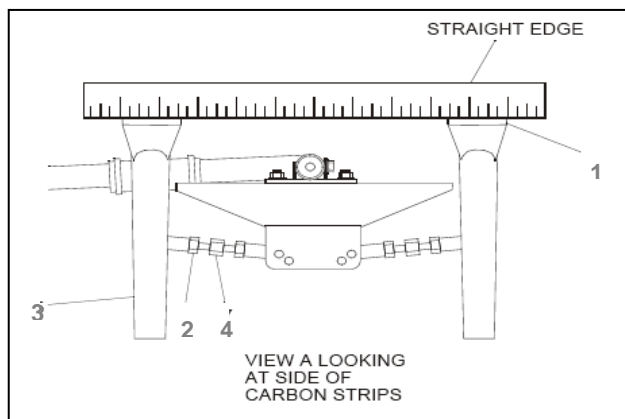

Figure 11: Straight edge tool and components: Carbon strips (1), Hex nuts (2), Pan head (3), and Turnbuckles (4)
- **Carbon strips** (Figure 11) – Visually inspect, look for chips as this will wear down quickly over time. Carbon strips must be replaced if cracks are detected. Make sure that there is the proper thickness. In some cases there is a wear line. In others, manually measure the thickness and be sure to refer to manufacturer's manual for specifications which is generally 1/8 to 1/4 inch. Make sure the carbon strip is perpendicular with catenary using a straight edge, level or square and parallel with each other. Use turn buckles until this state is achieved.